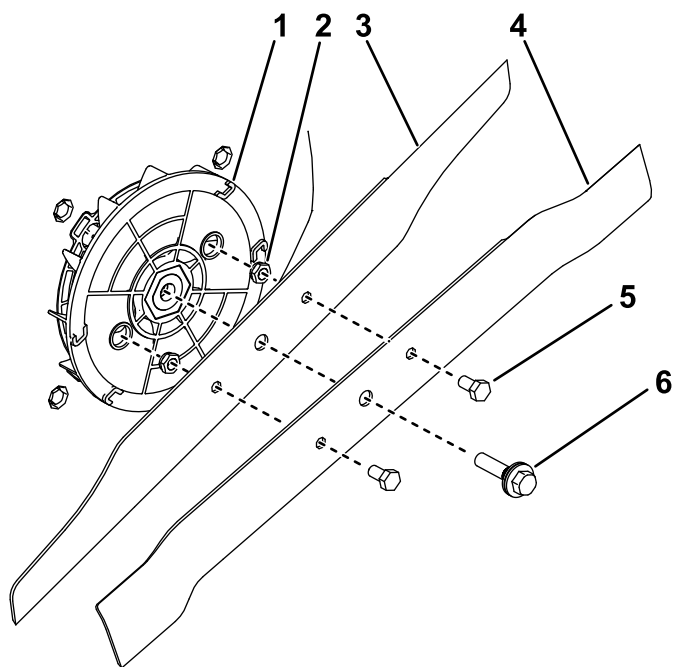

Figure 22
5. Secure the new blades to each other as shown in Figure 22; torque the nuts securing blades together to 18.9 to 19.6 N·m (167 to 173 in·lb).
6. Install the new blades using the blade bolt (Figure 22).